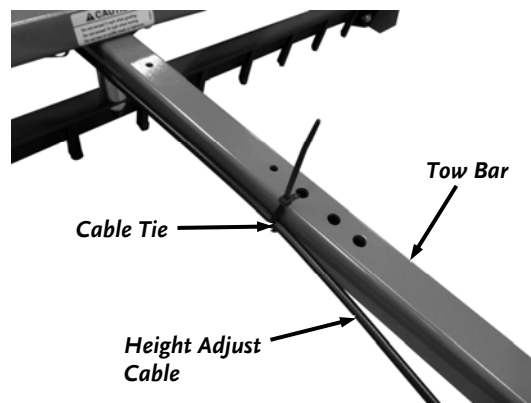

Figure 26
35. Secure the Cable to the Tow Bar using the Cable Tie (**Figure 26**).